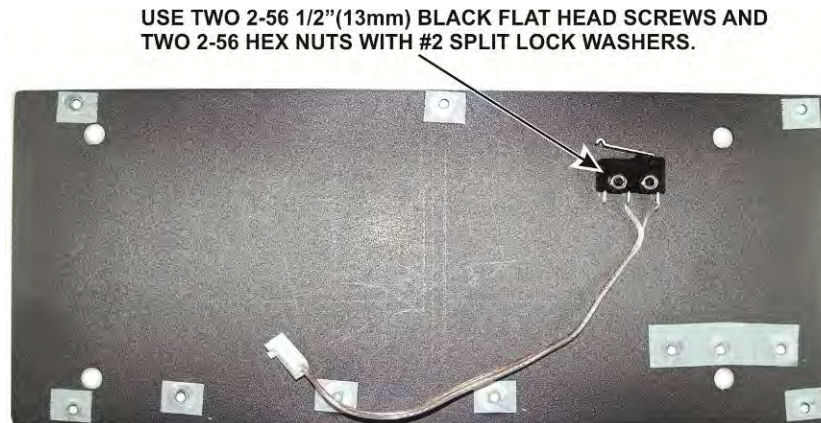

Figure 12. Mounting the Interlock Switch on the Left Side Panel.
- Locate the interlock switch and mount it on the inside (not fully painted) side of the side panel as shown in Figure 12.